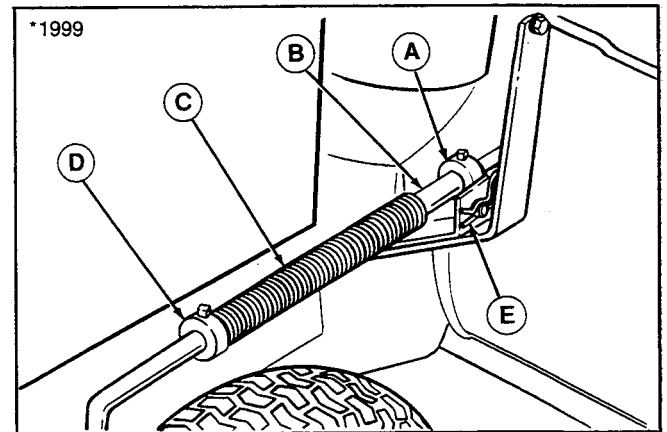

Figure 15. Adjust Lift Rod
2. Lower the snowthrower. Loosen the setscrew in the front set collar (A, figure 15). To increase the clearance, move the set collar toward the rod guide (B). To decrease clearance, move the set collar toward front. Tighten the setscrew. Raise the snowthrower and recheck the measurement. Readjust if necessary.
- a. Fully raise the snowthrower. Loosen the setscrew in the rear set collar (D, figure 15). Move the set collar back away from spring. The farther back the set collar is moved, the more the scraper blade will float. Tighten the setscrew.
- b. Fully lower the snowthrower lift lever. Loosen the setscrew in the front set collar (A) and slide it off the lift rod. Pull the lift lever back slightly so lift rod moves back one inch or two inches. Place the spring against the rod guide. Place the rear set collar against the spring and tighten the setscrew. Fully lower the lift lever. Notice that the spring is now compressed to provide down pressure. (Spring should compress about two inches. Do not allow spring to go solid.) Place the front set collar on the rod and tighten the setscrew. Recheck the scraper bar clearance (step 1) and readjust front set collar if necessary.